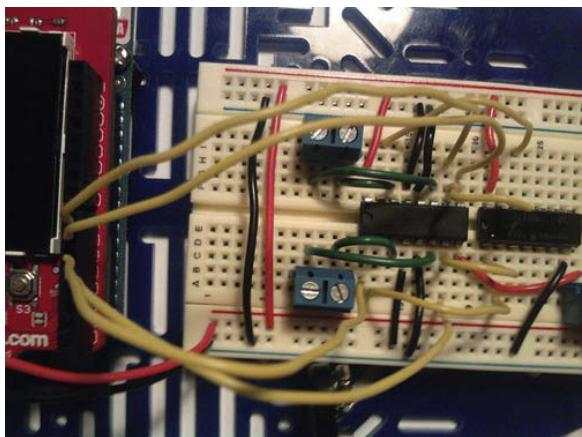

Figure 4-23. I/O connections: D4–7, D5–1, D6–9, D7–15
11. Connect the motors to the terminal blocks (see Figure 4-23).